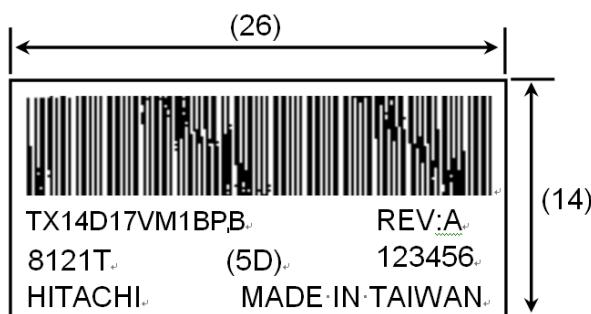

Fig 14.1
4) The location of the lot mark is on the back of the display shown in Fig. 14.1.